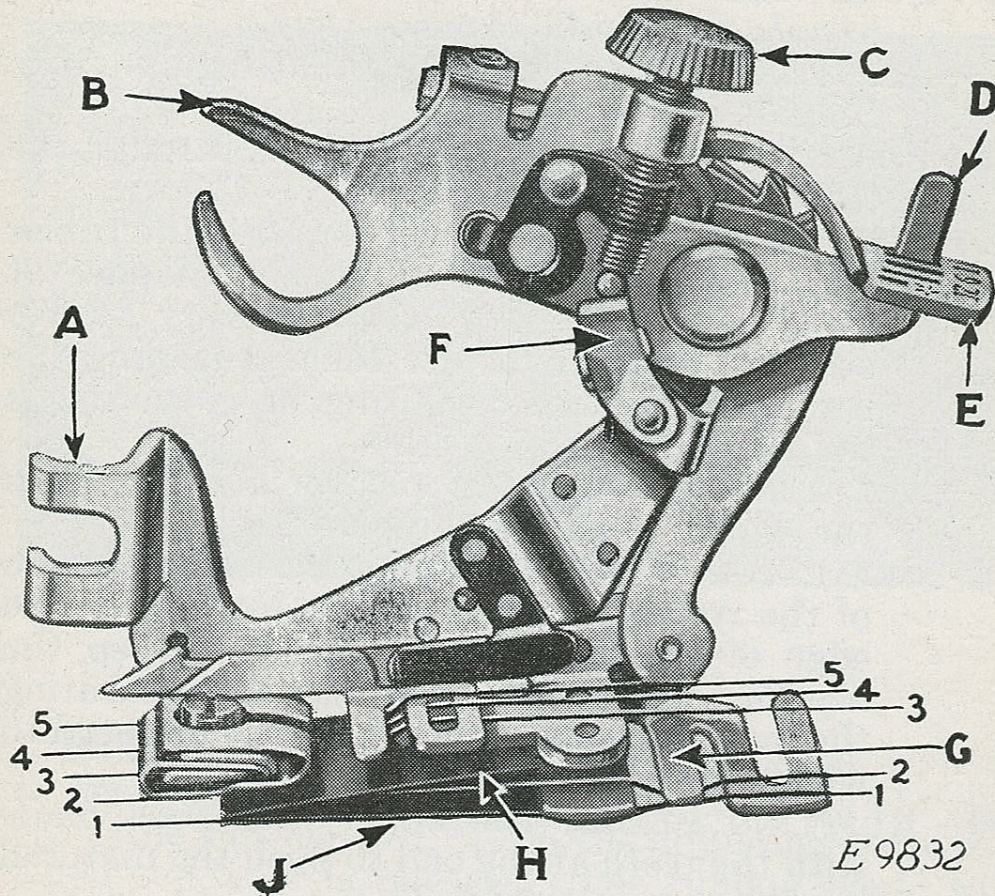
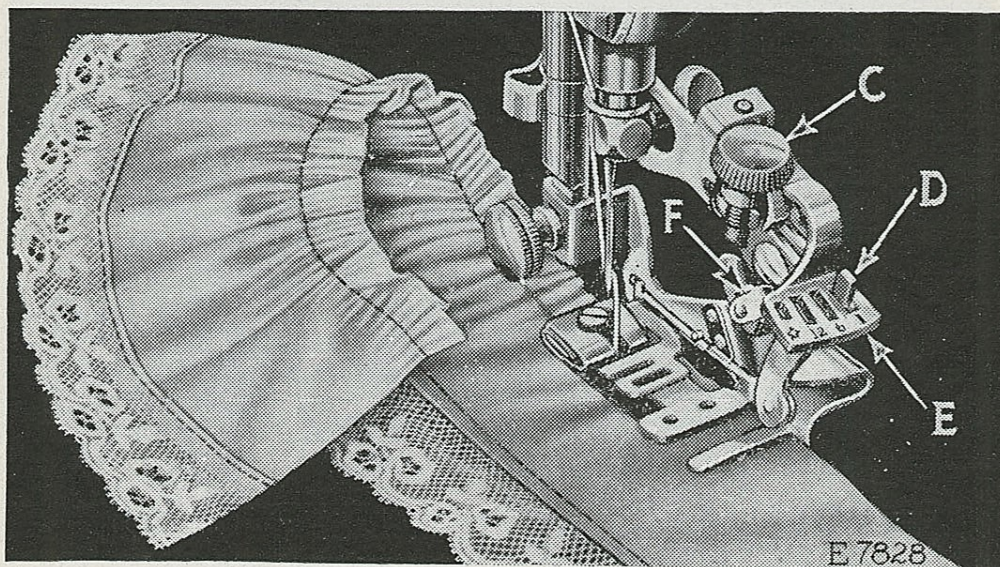
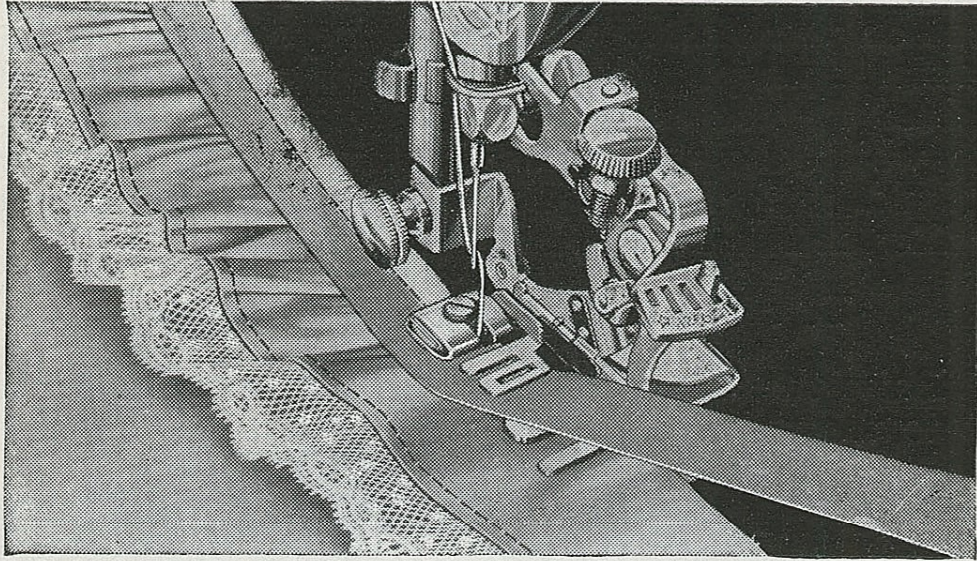
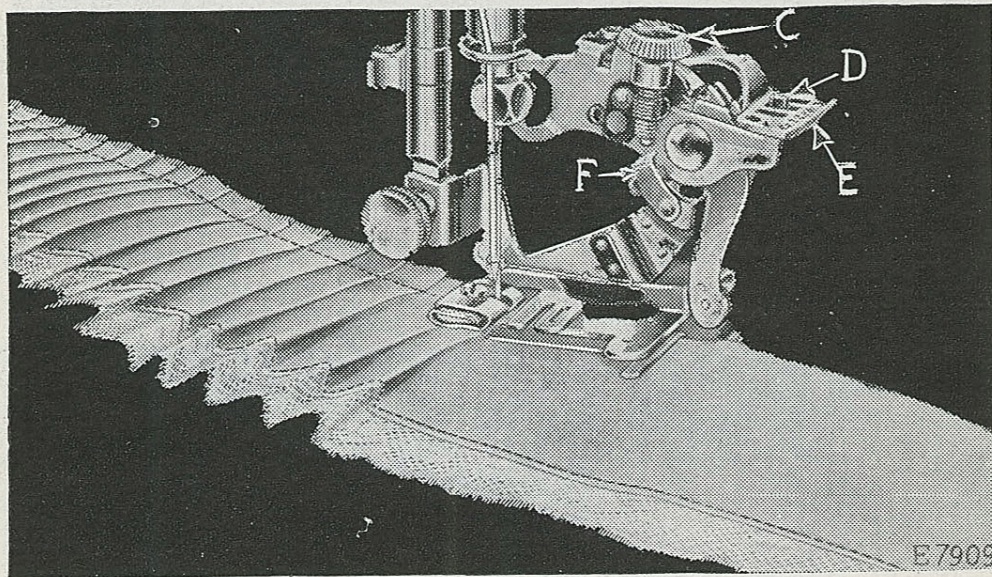

FIG. 40. THE RUFFLER AND ITS PARTS
FIG. 41
FIG. 43
FIG. 45
Lines 1, 2, 3, 4 and 5 shown in Fig. 40 indicate where the material is to be placed for various operations, as follows:
Refer to Fig. 40 when inserting the material in the ruffler.
(SEE REFERENCES IN FIG. 40)
Raise the needle bar to its highest point and remove the presser foot. Attach the ruffler foot (A, Fig. 40) to the presser bar by means of the thumb screw, at the same time placing the fork arm (B, Fig. 40) astride the needle clamp as shown in Fig. 41.
The adjusting finger (F, Fig. 41) is not intended for gathering and should be moved forward or away from the needle as shown in Fig. 41.
Raise the adjusting lever (E, Fig. 41) and move it to the left so that the projection (D, Fig. 41) will enter the slot marked "1" in the adjusting lever (E) when the lever is released. The ruffling blade will then move forward and back once at every stitch. Insert the material to be ruffled between the two blue blades, following the line 2 in Fig. 40. Draw the material slightly back of the needle, lower the presser bar and commence to sew.
To make fine gathering, shorten the stroke of the ruffling blade by turning the adjusting screw (C, Fig. 41) upward; also shorten the stitch. To make full gathering, lengthen the stroke of the ruffling blade by turning the adjusting screw (C) downward; also lengthen the stitch. By varying these adjustments, many pleasing varieties of work can be accomplished.
2, in Fig. 40. Place the garment to which the ruffle is to be attached, under the separator blade, following the line 1, in Fig. 40. Proceed the same as for gathering.
Insert the material to be ruffled between the two blue blades, following the line 2, in Fig. 40. Place the garment to which the ruffle is to be attached, under the separator blade, following the line 1, in Fig. 40. Place the material for the facing over the upper blue blade, as shown in Fig. 43, following the line 3, in Fig. 40. The facing may be straight or bias material. If the facing is to be on the right side of the garment, place the garment and
Insert the material to be ruffled between the two blue blades, following the line 2, in Fig. 40. This
The material for piping must measure about  $\frac{1}{4}$  inch wide when folded in the center and is usually cut on the bias. Place the piping material in the ruffler, following the line 4, in Fig. 40, with the folded edge of the piping to the right. The material to which the piping and ruffling are to be sewn should be folded on the edge and inserted in the ruffler, following the line 5, in Fig. 40.
Raise the adjusting lever (E, Fig. 45) and move it to the right so that the projection (D, Fig. 45)
will enter the slot marked "6" in the adjusting lever when the lever is released. The ruffling blade will then move forward and back once at every six stitches. To adjust the ruffling blade to make a plait once at every twelve stitches, place the adjusting lever (E, Fig. 45) so that the projection (D) enters the slot marked "12" in the adjusting lever. Insert the material to be plaited between the two blue blades, following the line 2 (Fig. 40). The size or width of plaits is regulated by the adjusting screw
(C, Fig. 45) and the adjusting finger (F, Fig. 45). To make a wider plait, move the adjusting finger (F) back or toward the needle and turn the adjusting screw (C) downward. To make a smaller plait, turn the adjusting screw (C) upward. The distance between plaits is regulated by the length of stitch.